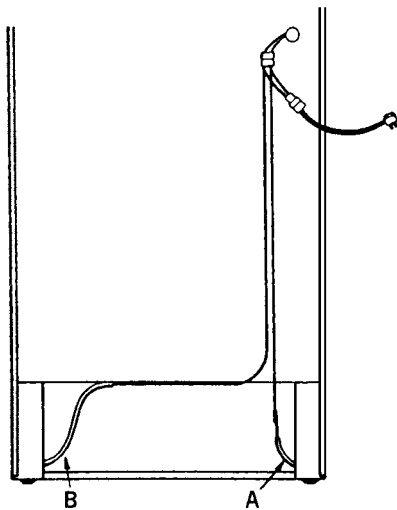

Fig. 12-22 Location of the leads and power cord. (Kelvinator)
14. Remove the wiring cover from the back of the cabinet harness. Disconnect the power cord from the cabinet. Connect the adapter harness to the cabinet harness and the power cord. See Fig. 12-22.
16. Cut the adapter harness and the heater lead to their proper lengths. Connect the adapter harness to the heater with connectors. Secure the leads to the suction line. Reinstall the wiring cover. See Fig. 12-22.